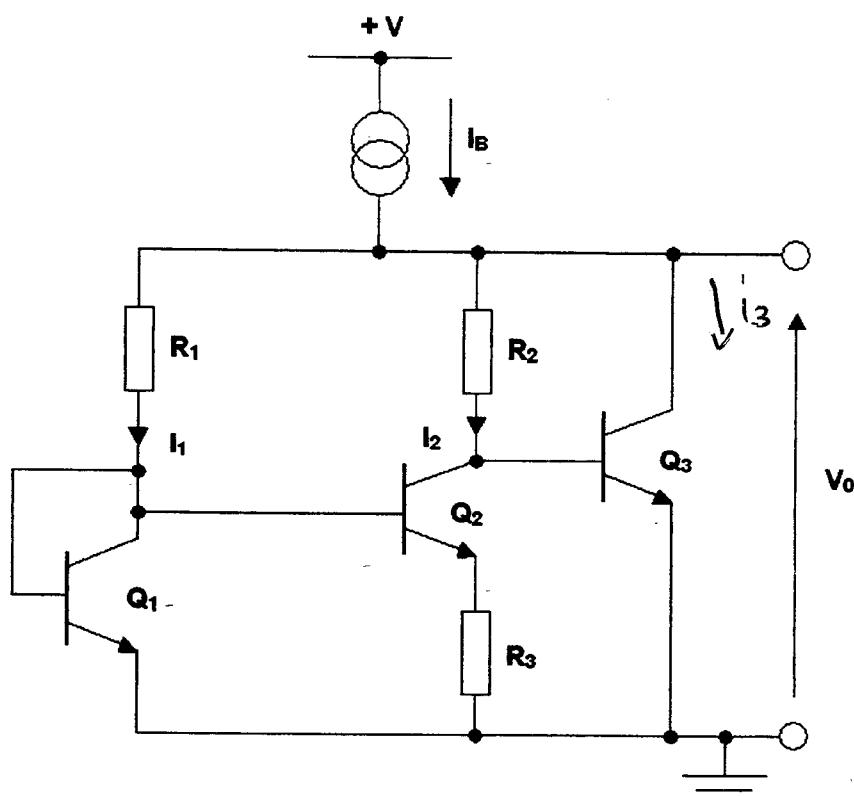

Figure 2.1
2. (a) Briefly describe the function of each of the three biasing circuits in Figures 2.1–2.3, giving reasons for their suitability in an integrated circuit application. [8]
- (b) For the bandgap voltage reference circuit of Figure 2.1, show that $\delta V_0 / \delta T = 0$ (where T is temperature) if $(R_2/R_3) \ln(I_1/I_2) = 29$, and that this condition occurs if $V_0 = 1.283$ V.